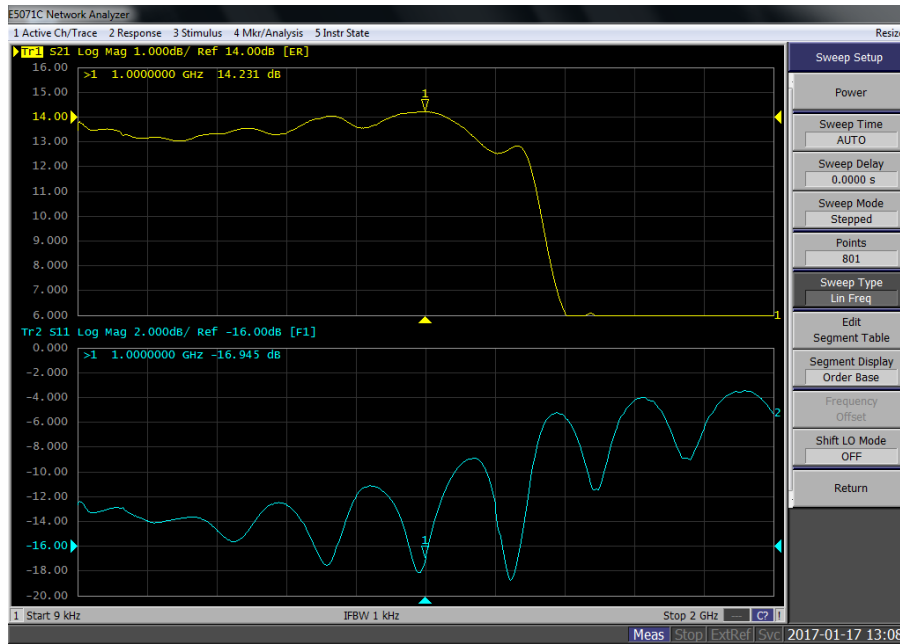

Figure 4-4. Typical Driver Module Response
3. The typical response for the A1 Pre-Amplifier (at maximum gain setting) is shown in Figure 4-4.